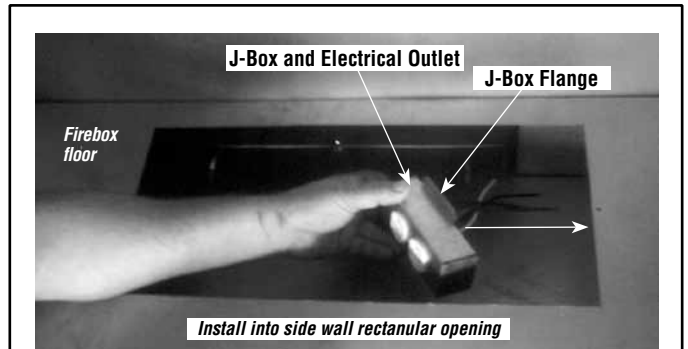

Figure 17
Step 2. Remove the rectangular knock-out (for J-Box) on the right side of unit (see **Figure 6** for location). Install the Junction Box and Electrical outlet below the firebox floor into the rectangular opening on the right side cabinet panel where you removed the knock-out (see **Figures 17 and 18**). *The Junction Box / Electrical Kit is sold separately (see Page 16 for ordering information).*
- Squeeze the J-Box flanges together to fit into the opening shown in **Figures 17 and 18**.